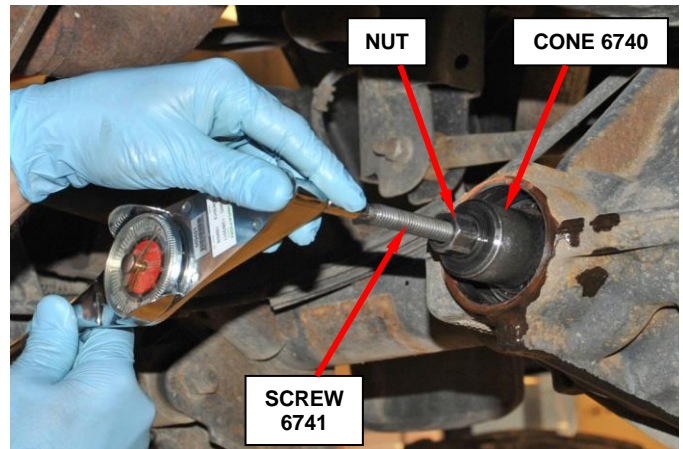

Figure 18 – Check Turning Torque
- b. Insert the Pinion Block 8542, Pinion Height Block 6739, new rear bearing, and Screw 6741 into the housing through pinion the bearing cups (Figure 18 and 19).
- c. Install new front pinion bearing and Cone 6740 and nut onto the Screw 6741). Tighten the cone-nut until the turning torque of the screw is 22 in. lbs. (2.5 N·m) (Figure 18 and 19).